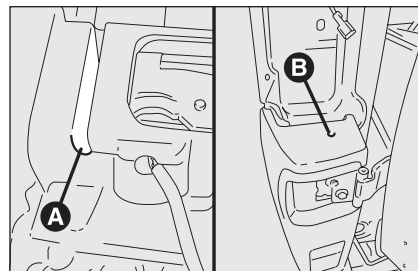

fig. 30b
- ☐ unscrew lower fastening **A** between the central and side bumper fig. 30b;
- ☐ after removing the tail-light, unscrew upper fastening **B**-fig. 30b;